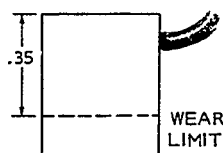

FIGURE 21. BRUSH WEAR LIMIT
4. **Brush Inspection:** If brushes are worn shorter than 1/4 inch, replace them. Check to see that brushes move smoothly in the brush holders. See Figure 21.